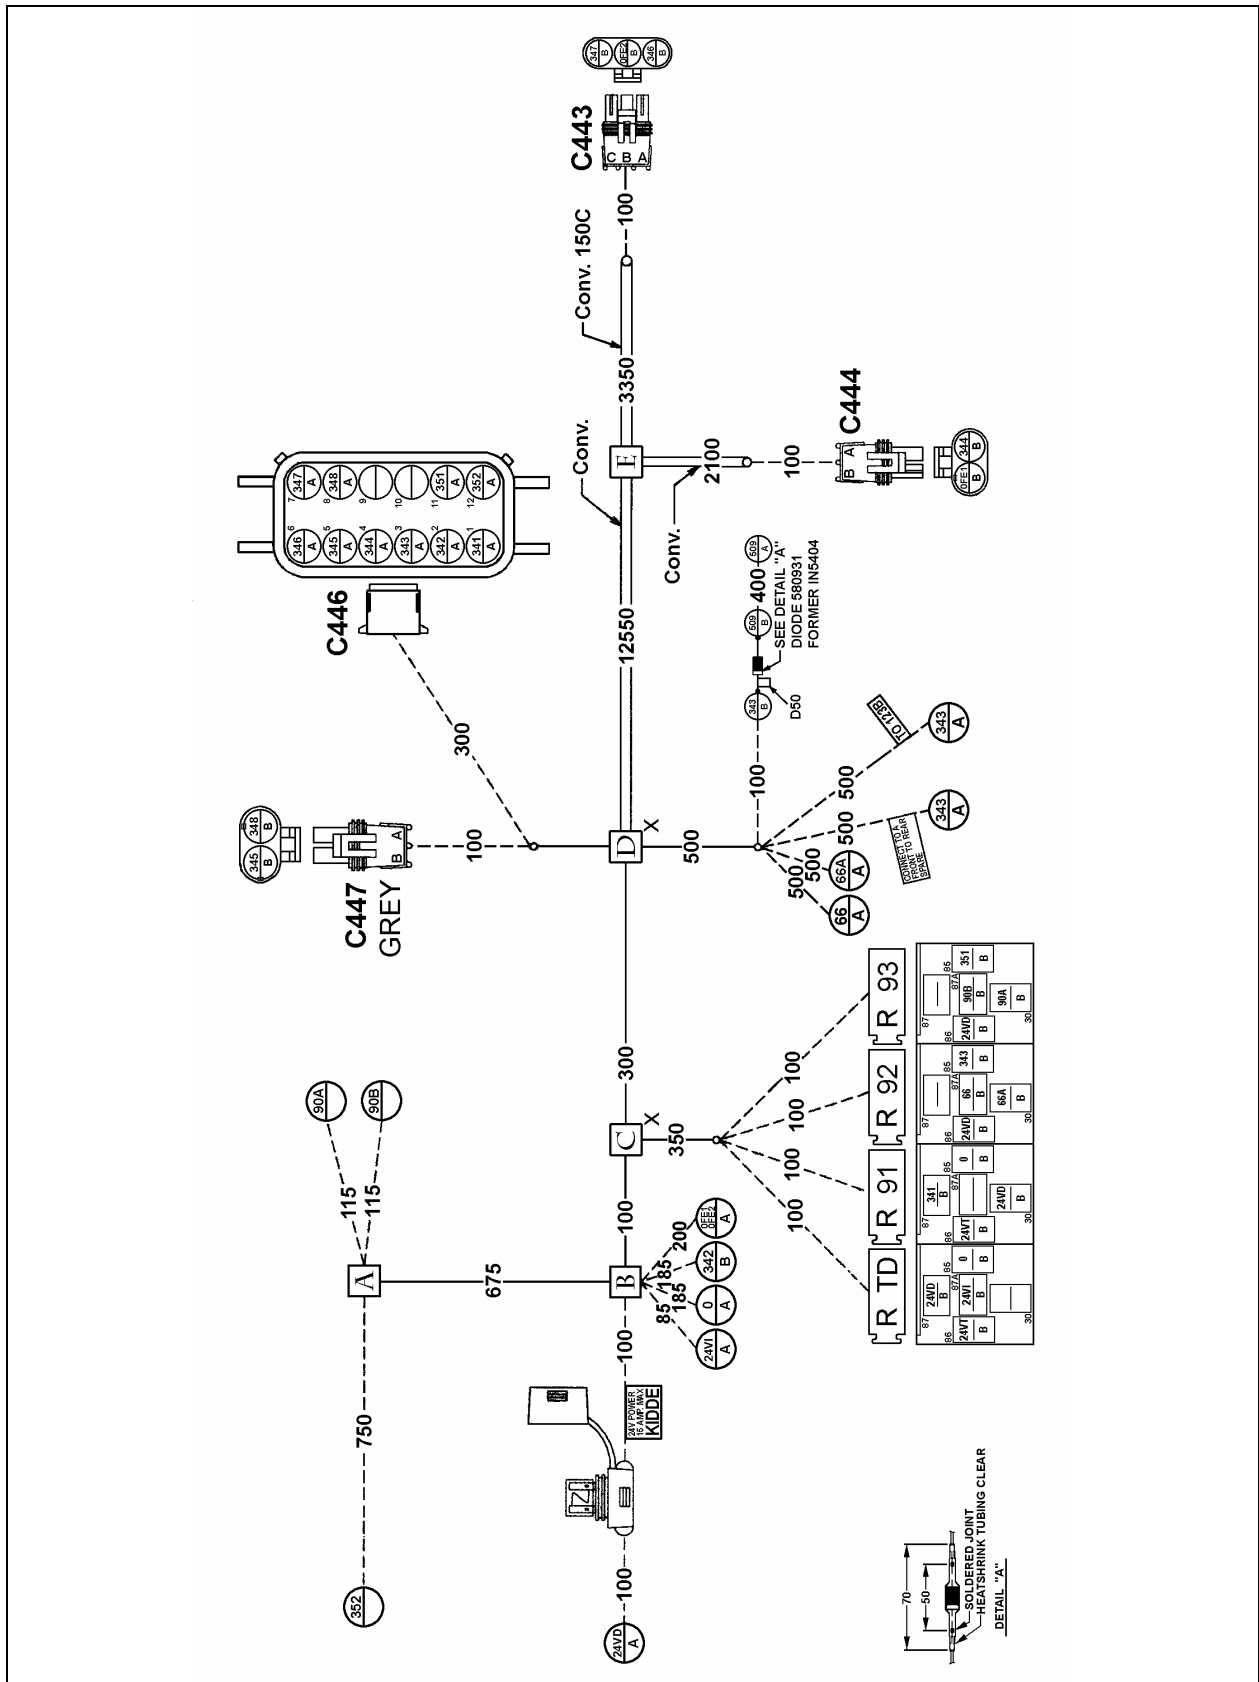

FIGURE 4: CABLE 066397
3. Route engine compartment fire suppression cable (066397) between optical fire detector (408111) and front junction box (Refer to figure 4 and diagrams 8 and 9 as well).